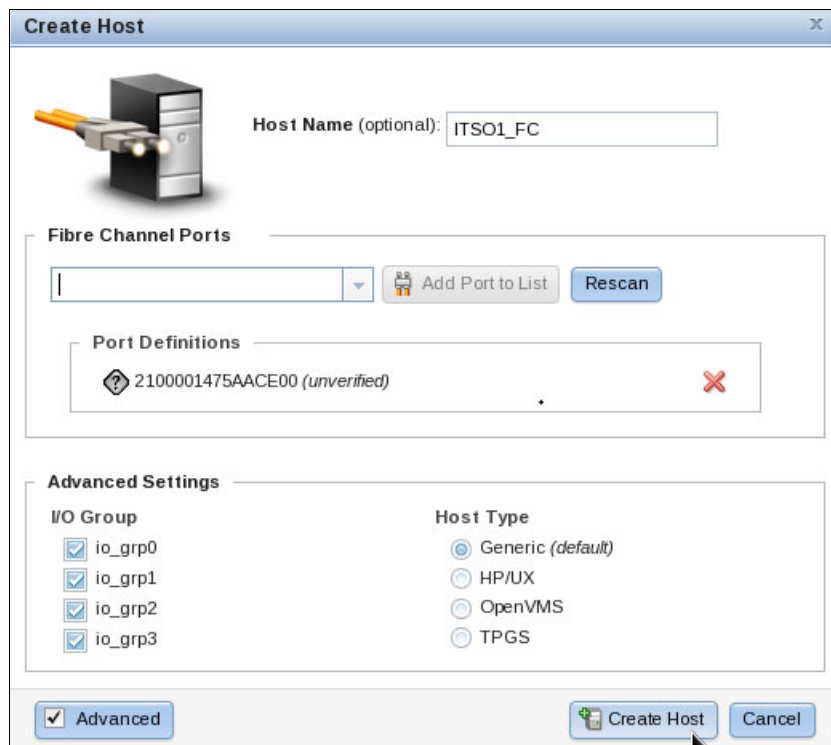

Figure 2-36 Creating a Fibre Channel host
4. In this example, **Fibre Channel Host** was selected. Enter the host name and add the WWPN. In the Advanced Settings section, select the settings that are related to your Storwize V7000 I/O Group configuration and then select the Host Type. Click **Create Host**, as shown in Figure 2-36.